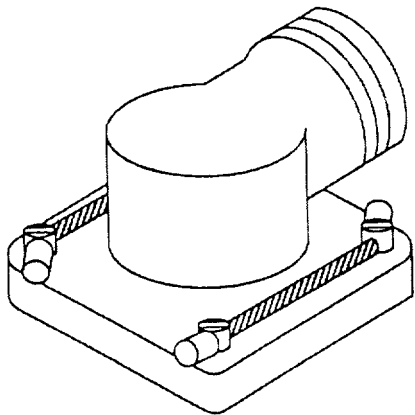

Figure 14. Flanged Receptacle Safety Cable Installation
37. **FLANGED RECEPTACLE.** Select the appropriate diameter safety cable using the guidelines in this manual, and install safety cable on flanged receptacles as shown in Figure 14.